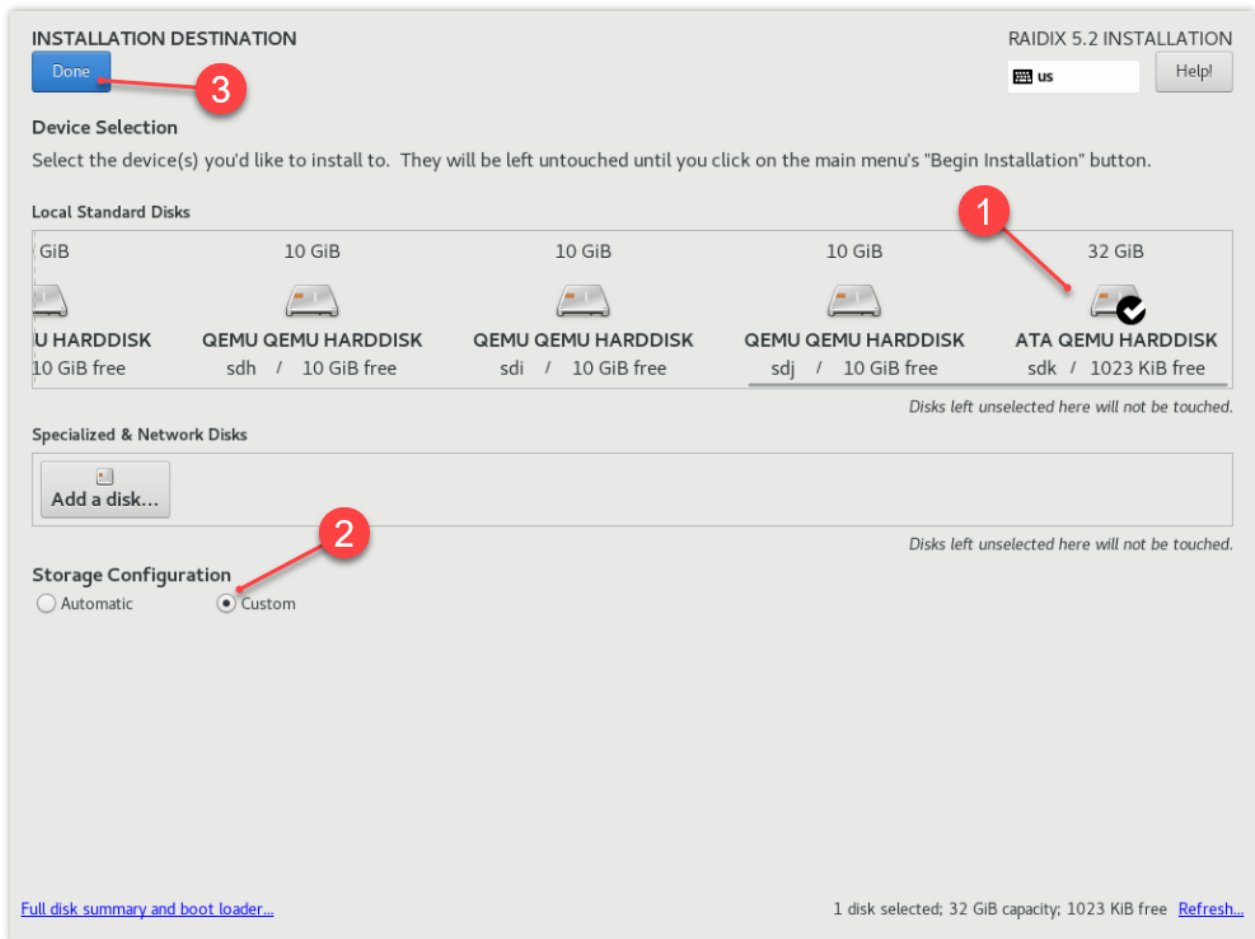

Figure 7. Drive Selection
1. In the opened window, select a drive for installation of RAIDIX (Figure 7).